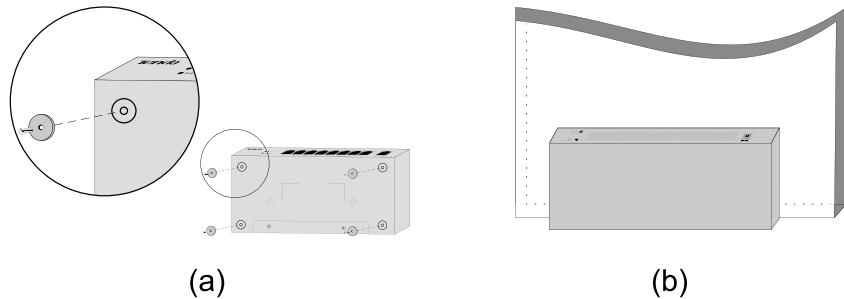

Figure 2-2 Magnet Installation
Step 2: Use screws to secure the magnets to the switch's housing, shown as Figure 2-2 (a);
Step 3: Press the switch (installed with magnets) in a proper way on a stable surface you select, shown as Figure 2-2 (b). When installing, be careful with your fingers.